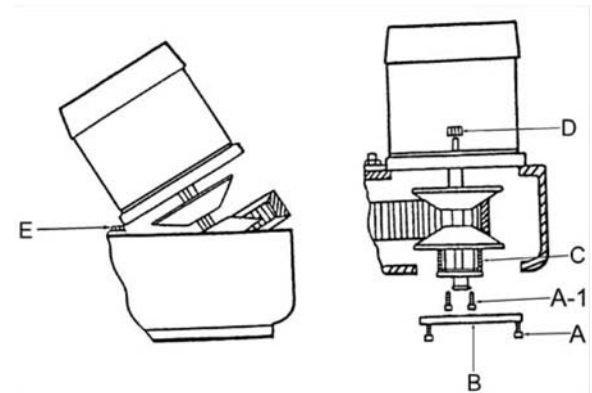

Figure 14
3. Remove three screws (A, Fig. 14) and plate (B, Fig. 14).
4. Use two screws (A-1, Fig. 14) to compress the spring (C, Fig. 14).
7. Remove two locking nuts (D, Fig. 14).
8. Lift and tilt the motor so that it rests on stud (E, Fig. 14).